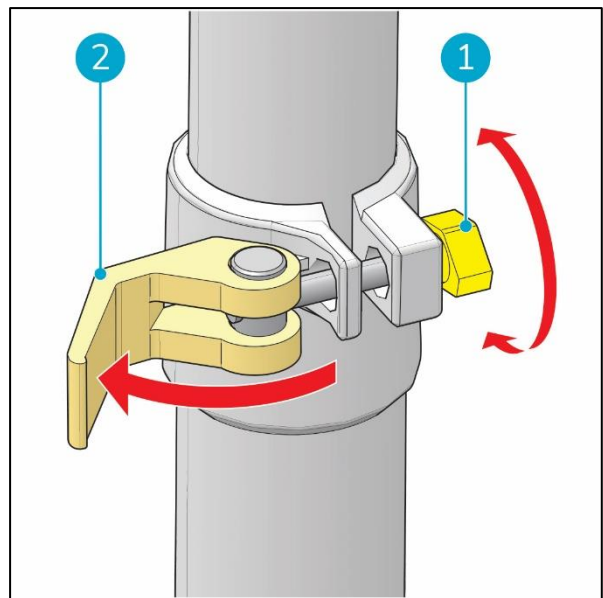

Figure 19
1. Unlock the yellow clamp (Figure 19, pos 2).
2. Turn the yellow knob at the side of the clamp (Figure 19, pos 1) clockwise to strengthen, or anti-clockwise to loosen the tightness of the clamp.